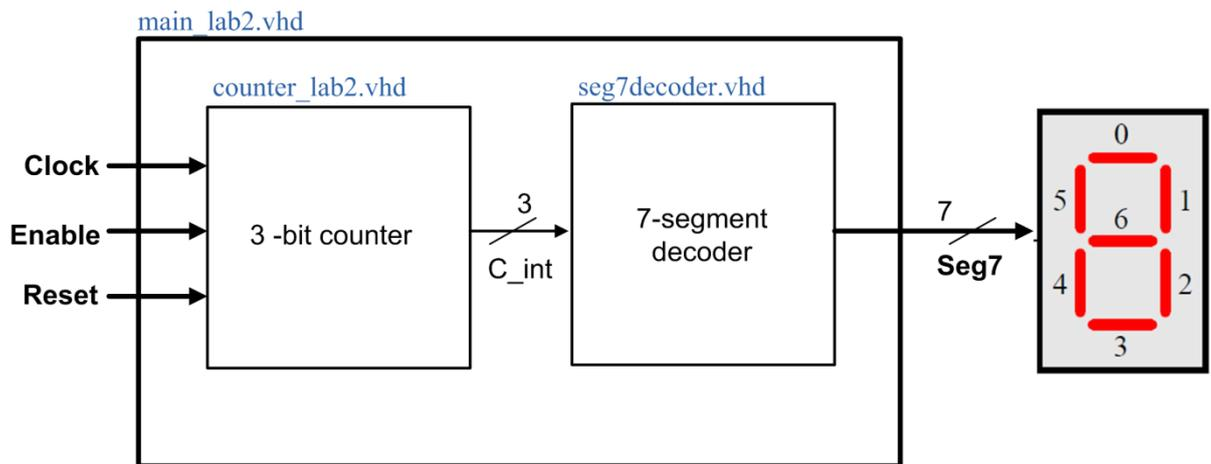

Figure 2 Block diagram
3. Make a new VHDL file with the name **main_lab2.vhd**. This will be the top file of the design. The functionality of the design is described in Figure 2, and the details of the implementation are as follows:
- a. The entity I/O and architecture are described by Figure 2.